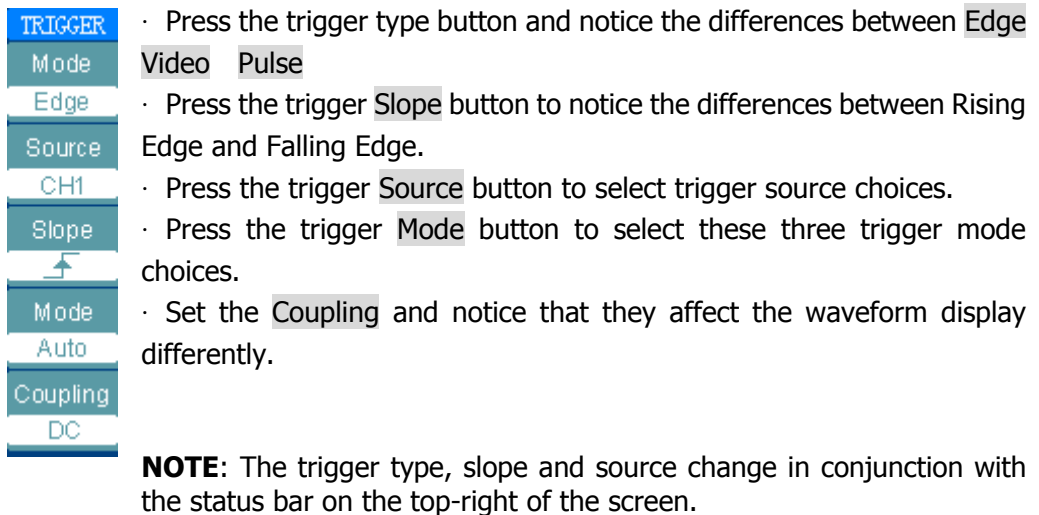

Figure 1-13
- A soft button menu appears on the display showing the trigger setting choices. Figure 1-13 displays this trigger menu.